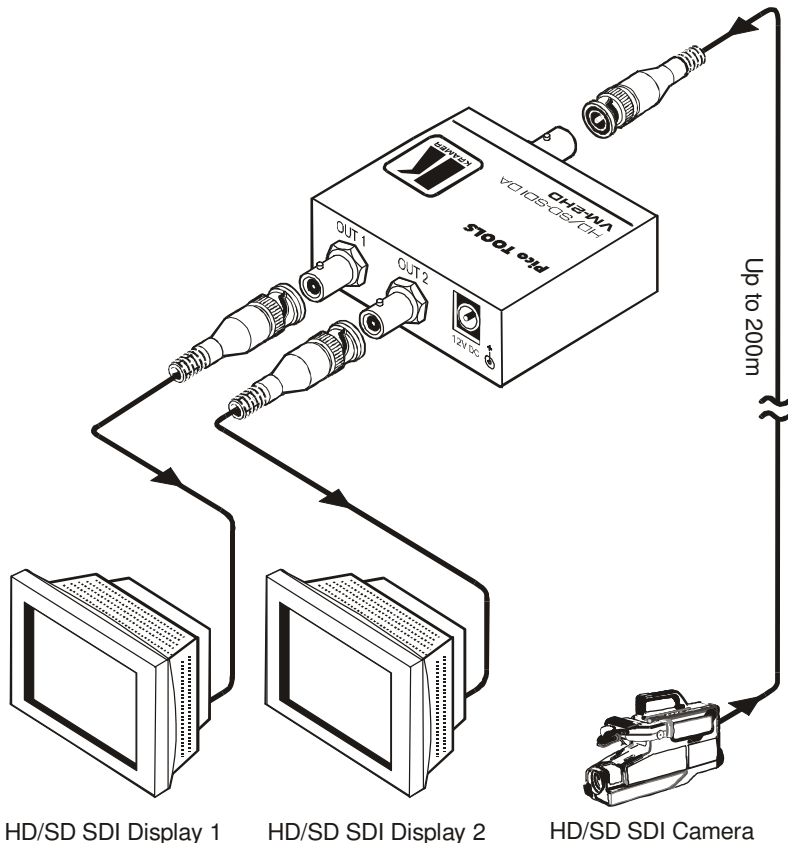

Figure 2: Connecting the VM-2HD HD/SD - SDI DA
To connect the **VM-2HD**, as the example in Figure 2 illustrates, do the following:
3. Connect the 12V DC power adapter to the power socket and connect the adapter to the mains electricity (not shown in Figure 2).